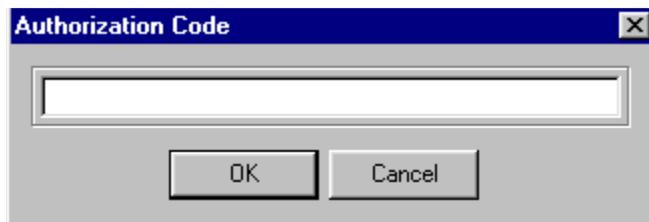

Figure 18: Authorization Code Dialog
6. Enter the authorization code and select *OK* when the Authorization Code dialog opens, see *Figure 18*.